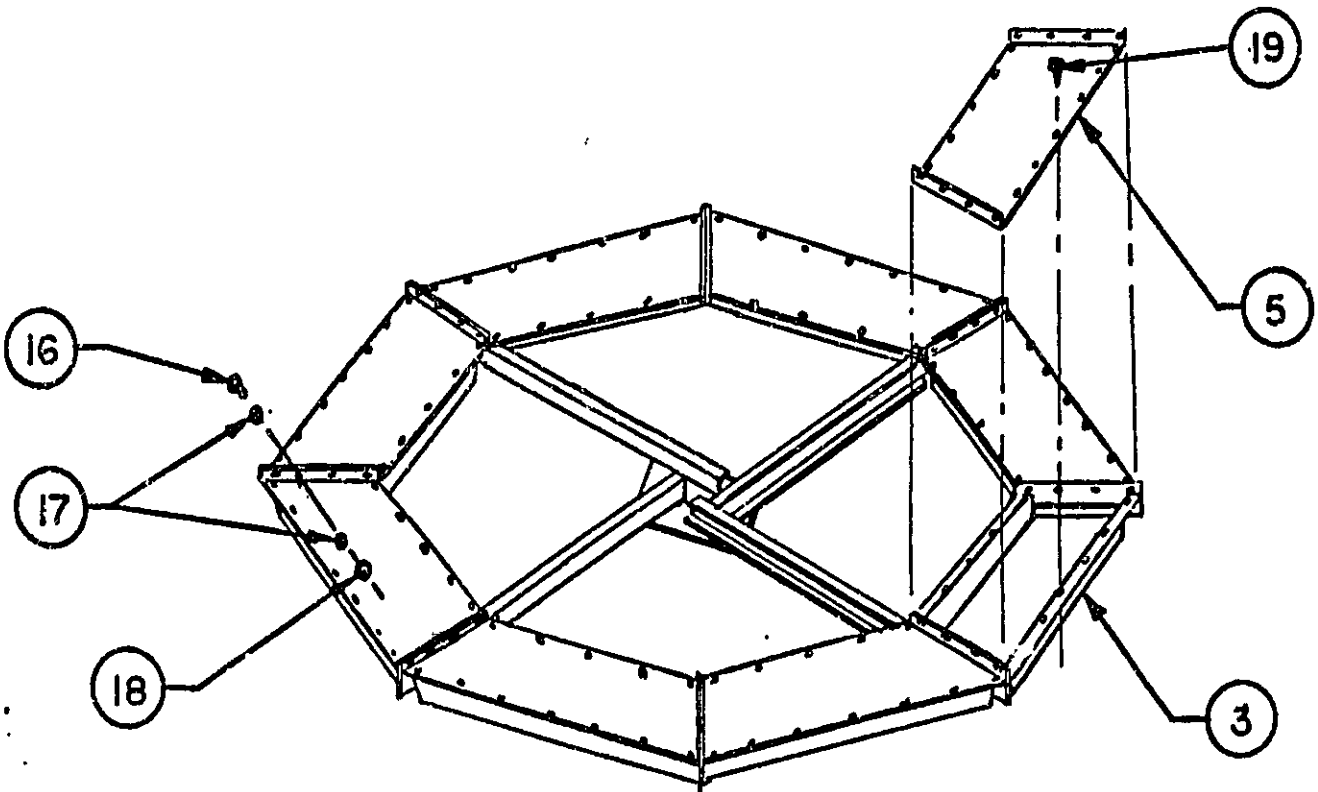

FIG 3
- STEP 7 Attach pan cover P/N 364619 to ballast pan P/N 364620. (see Figure 3) Install item's #16, #17, #18 as shown and do not tighten sheet metal screws, item 19. Tighten items #16, #17, #18 on the cover flanges.
- STEP 9 Place second base plate item 2 in center on top of horizontal braces and fasten outer four holes using hardware items #11, #12, #13.
- STEP 10 Attach both mast brackets item 6 to base plate and horizontal braces using hardware items #11, #12, #13. NOTE: LONGER FLANGE OF BRACKET IS TO BE AT TOP.